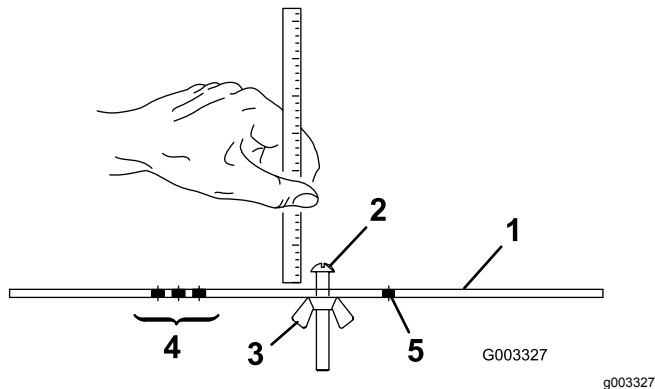

Figure 19
- 2. Loosen the nut on the gauge bar (Figure 19) and set the adjusting screw to the desired height of cut.